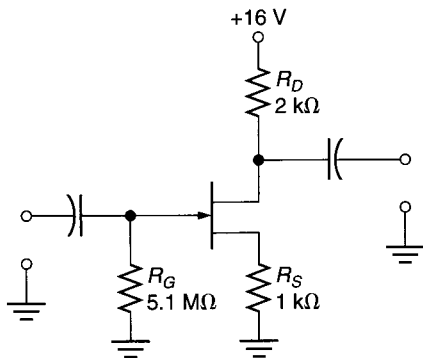

FIGURE 12.58
21. Determine the ranges of  $V_{GS}$ ,  $I_D$ , and  $V_{DS}$  for the circuit shown in Figure 12.58. Assume the JFET is a 2N5458 (which is described in Problem 10).